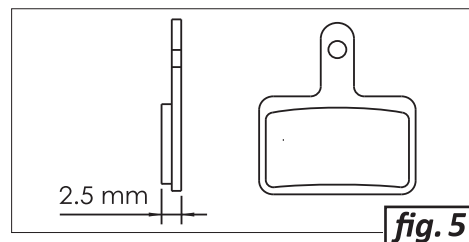

fig. 5
- Pads should be replaced if they become contaminated or have less than 2.5mm thickness (Pad friction material & metal backing plate). (fig. 5)